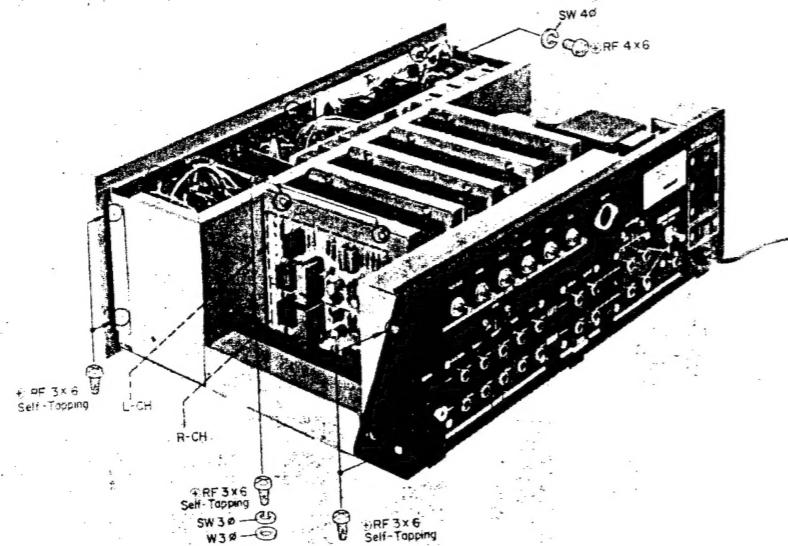

Fig. 2-2. Removal of Front-Panel Ass'y
- b. Remove the two self-tapping screws (+RF3 ϕ x 6) on each side of the chassis. See Fig. 2-2.
- Remove the three Phillips-Head screws (+RF4φ × 6) behind the top edge of the Front Panel Assembly. See Fig. 2-2.
- Remove the two self-tapping screws (+RF3φ × 6) on each side of the chassis. See Fig. 2-2.